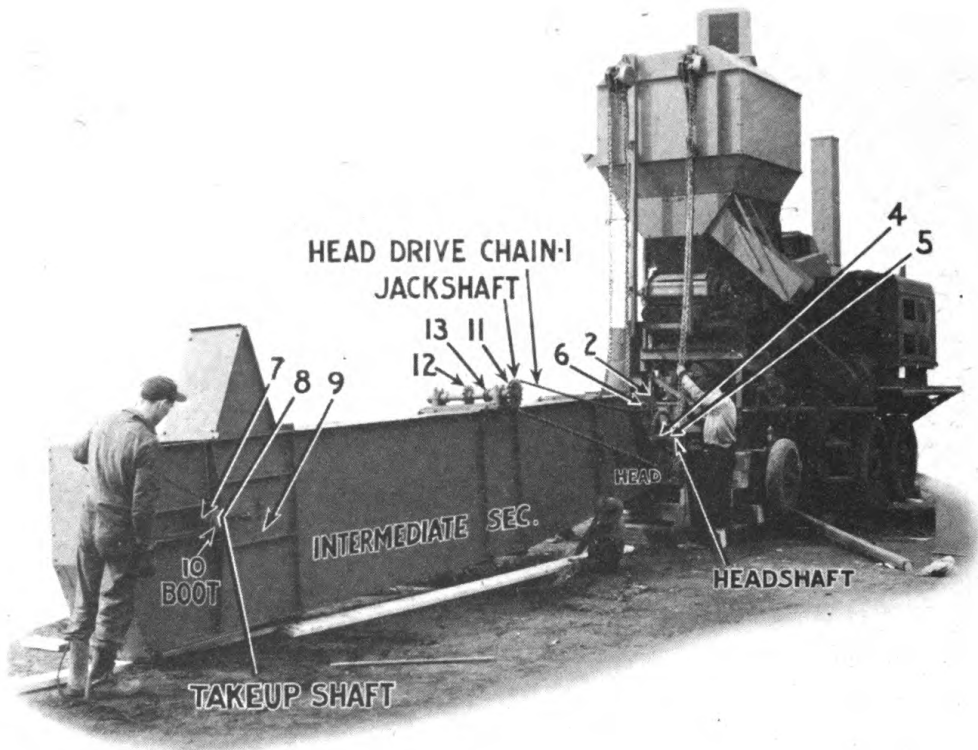

FIGURE 119
This item is mounted on two angle iron flanges on the Head Section by means of bolts through bronze-bushed bearings. To remove this shaft, uncouple drive chain (1) Fig. 119 and remove hood (2).